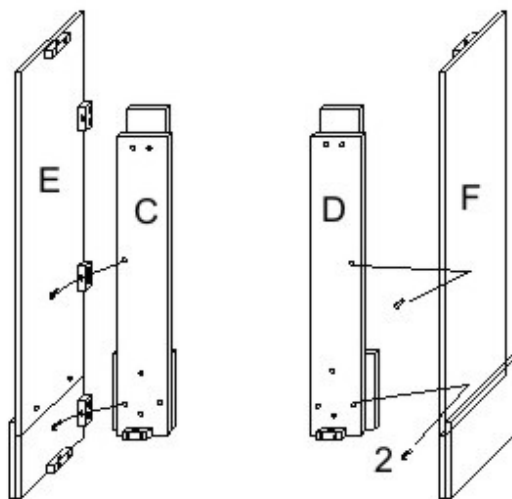

Fig. 5
**Step 5:** Attach LEFT & RIGHT FRONT PANELS (C, D) to the LEFT & RIGHT UPPER SIDE PANELS (E, F) with 4 KD SCREWS (2). See Fig.5.